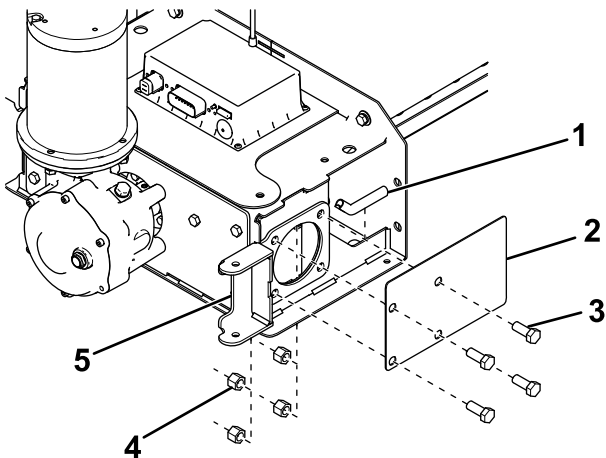

Figure 15
- If you have a pintle chain Forge spreader, continue to step 7. For the auger Forge spreaders, remove and retain the 4 bolts and nuts securing the right spinner-assembly pin lock and auger sideplate to the auger assembly (Figure 15).
- Slide 1 of the edge covers onto the opening in the auger assembly (Figure 15).